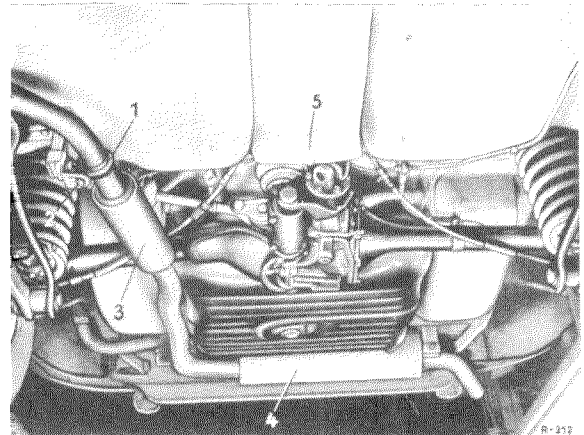

Fig. 42 — 19/4
12. Attach the cable guide (17) to the equalizer (16) by means of the collar bolt (18).
13. Cotter the collar bolt (18) and attach the equalizer (16) in the propeller shaft housing.
14. Attach the center brake cable (8) to the equalizer by means of the collar bolt (12) and cotter the collar bolt.
15. Attach the return spring (14) to the cable guide (17) and to the bracket (20) at the chassis base panel.
16. Insert the rear brake cable in the left and right brackets (29) and tighten the hexagon nuts (27). Then slide the rubber sleeves (26) over the collars of the hexagon nuts.
17. Push the two ends of the brake cable through the pulley housings (8). Then fix the pulleys in the two pulley housings by means of the hexagon bolt and hexagon nut and lock washer (see Fig. 42 — 19/2).
18. Attach the two pulley housings at the left and right brake anchor plates by means of the two hexagon nuts (2) and lock washers and attach them to the support tube (7) by means of the hexagon screw (5) and lock washer (see Fig. 42 — 19/2).
20. Clamp down the cable guide (9) in the pulley housing by means of the clamping screw (10) (see Fig. 42 — 19/2).
22. Check the position of the rubber sleeves on the brake cable and adjust if necessary. The rubber sleeves must fit over the brake cable in the region of the support tubes and the cross strut (Arrows in Fig. 42 — 19/4).
2. If the brake linings are so worn that the adjustment range of the wing nut is no longer sufficient to adjust the hand brake satisfactorily, the brake cable guide (17) at the equalizer (16) must be advanced by changing the position of the collar bolt (18) (see Fig. 42 — 19/3).